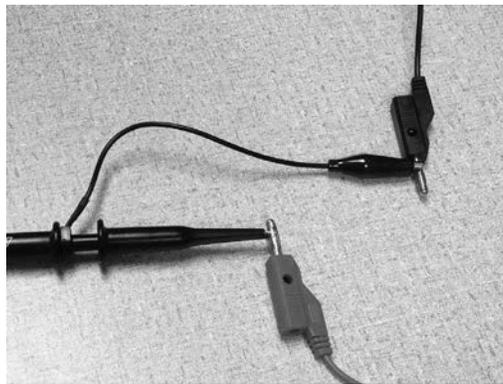

Figure 1-5 Probe connections for DC voltage measurement
- c. Connect the oscilloscope probe tip to the positive banana lead, and the ground clip to the negative lead (see Figure 1-5).